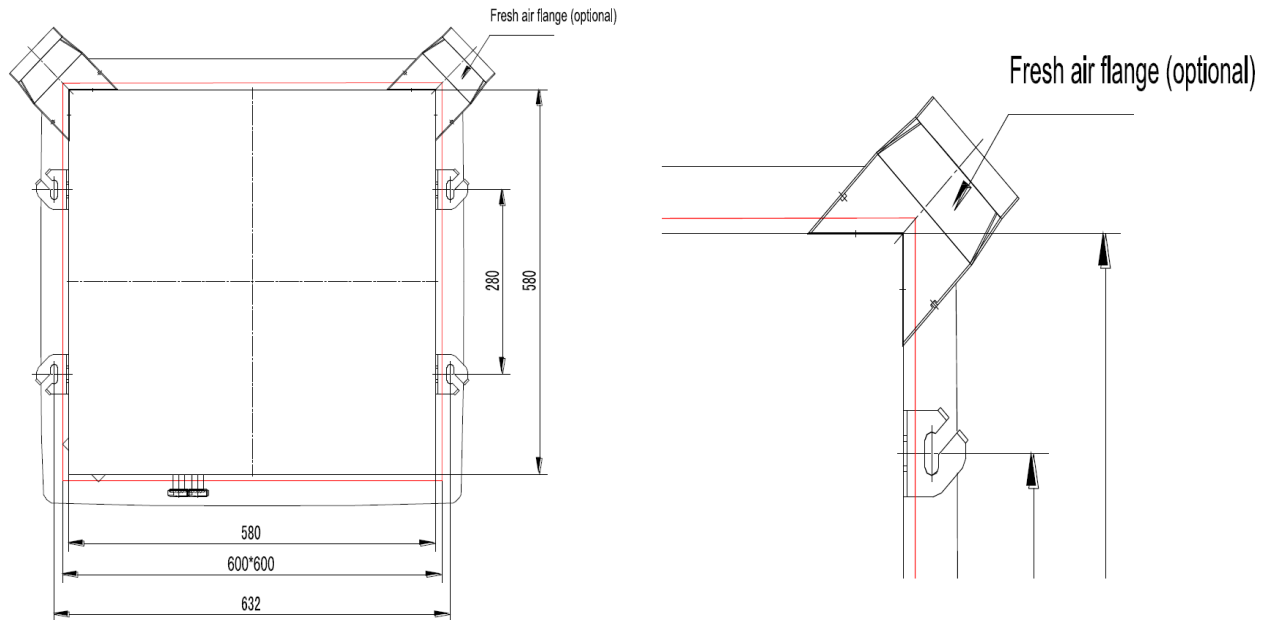

Figure B.10.1
1. The corners of the cassette allow separate ductwork to be installed for outside air intake (Figure B.10.1)